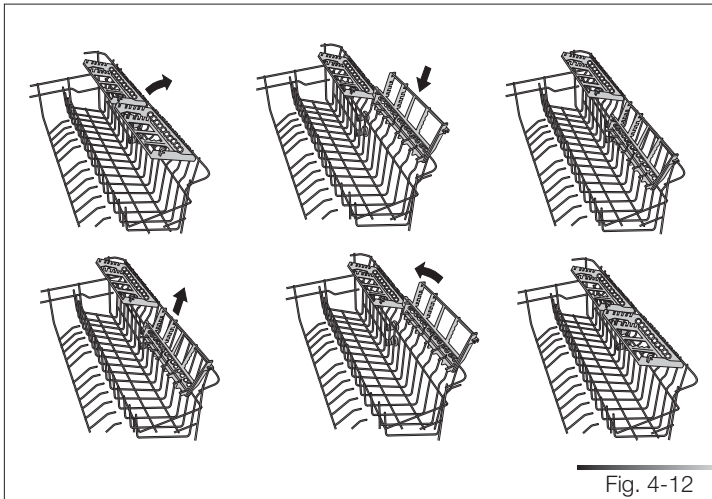

Fig. 4-12
4.4.3 Upper rack (vedi fig. 4-12, 4-13)
The two tip-up “cutlery baskets” on the right-hand side of the rack can be opened or closed as required (see fig. 4-12). The two cup supports on the left-hand side of the rack can be opened or closed as required (see fig. 4.13).